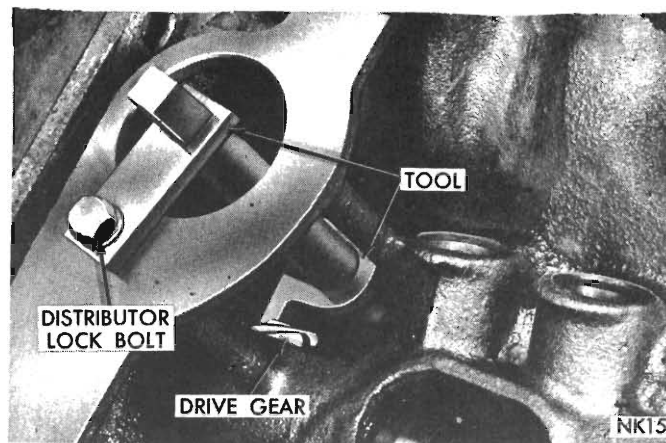

Fig. 16 - Camshaft holding tool E9C65F
When installing timing chain, use Tool E9C65F to prevent camshaft from contacting the welch plug in the rear of engine block. Remove distributor and oil pump-distributor drive gear. Locate tool against rear side of cam gear and attach tool with distributor retainer plate bolt (*Fig. 16*).
- (1) Lubricate camshaft lobes and camshaft bearing journals and insert the camshaft to within 2 inches of its final position in cylinder block.
- (2) Install Tool E9C65F with tongue back of distributor drive gear (Fig. 16).